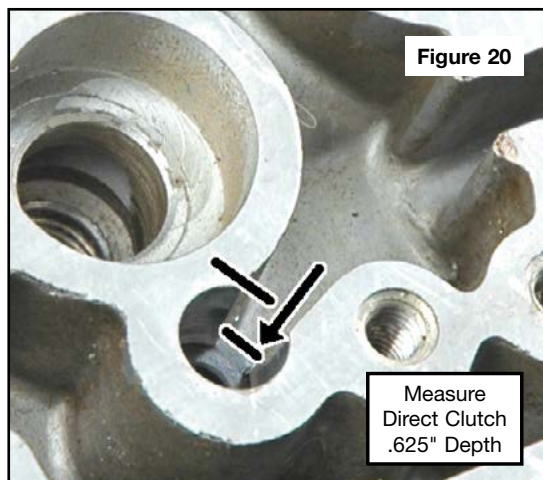
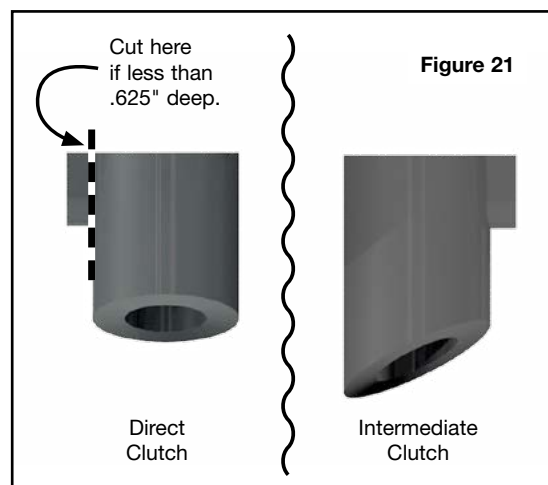

Figure 20
Figure 21
- If the distance from the valve body gasket surface to the cast passage (Figure 20) is more than (.625"), install the seal as-is.
- If the distance from the valve body gasket surface to the cast passage (Figure 20) is less than (.625"), cut the nub off of the side of the direct clutch seal (Figure 21).